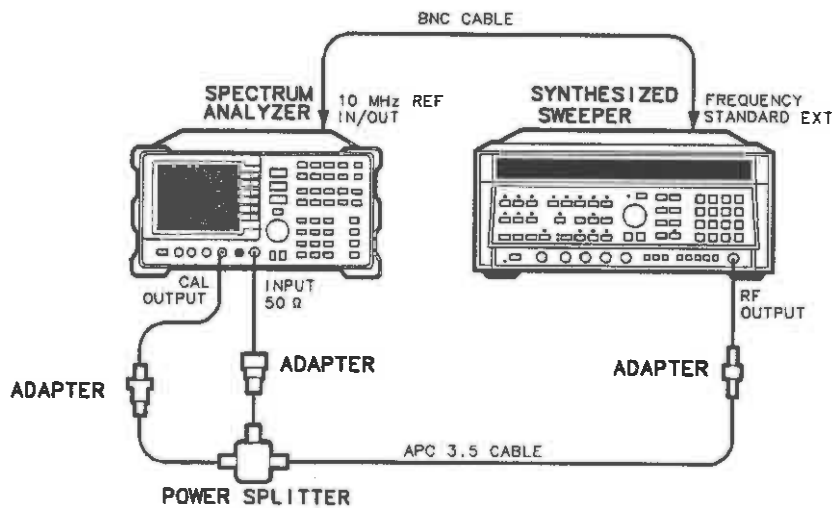

Figure 3-19. Frequency Span Accuracy Test Setup
1. Connect the equipment as shown in Figure 3-19. The spectrum analyzer provides the frequency reference for the synthesized sweeper.